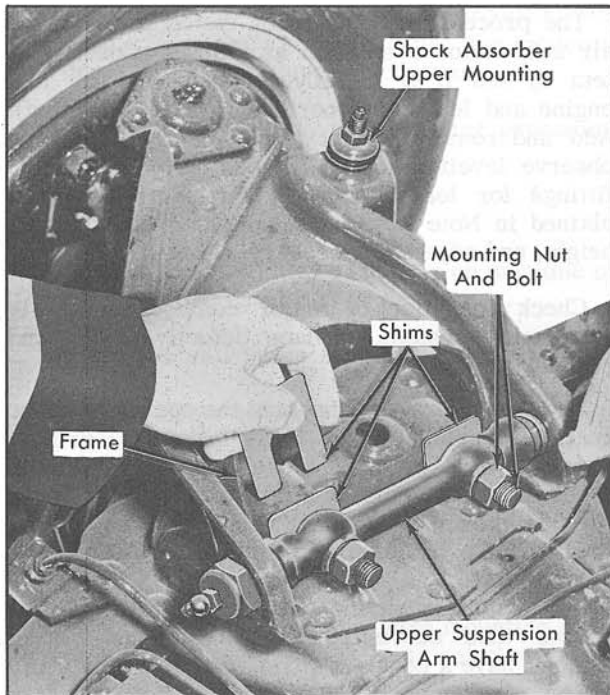

Fig. 4-8 Caster-Camber Adjustment
Caster and camber adjustment is made by adding or removing shims between the upper suspension arm mounting shaft and the frame mounting bracket, Fig. 4-8.
2. Add or remove shims as required, Fig. 4-8.